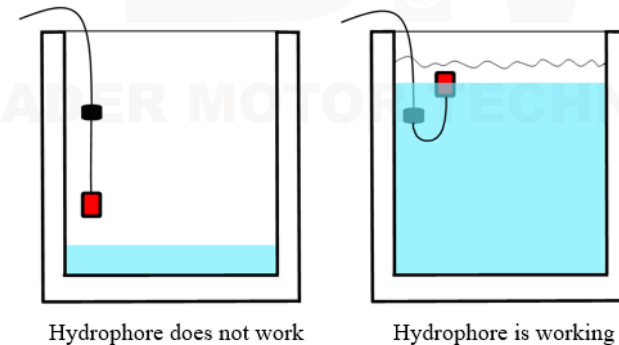

Figure 8.5 Floater usage method
- ❖ Finally, install the level float and adjust it as shown in Figure 8.5.